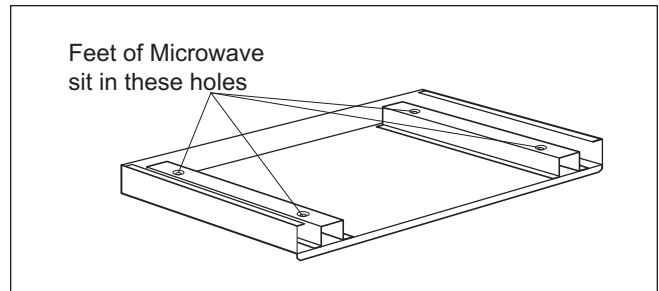

Figure 1. Bottom Duct Assembly
1. Center the bottom duct assembly in opening and secure in place using the #8-15 X 1/2" Truss Head Screws to base of cabinet opening (See Figure 1).
2. Plug power cord in, then carefully guide microwave into opening, lining up feet of microwave with holes in bottom duct assembly, then lower microwave onto duct assembly (See Figures 1 and 2).